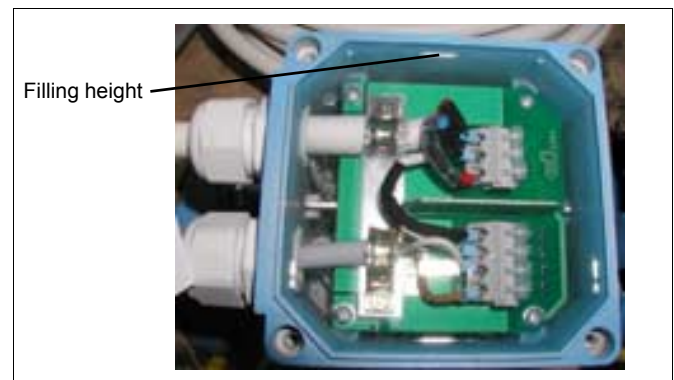

Fig. 17 Max. filling height during the sealing process
- Do not overfill the terminal box. Keep the sealing compound away from the O-ring and the seal/groove (see Fig. 17).